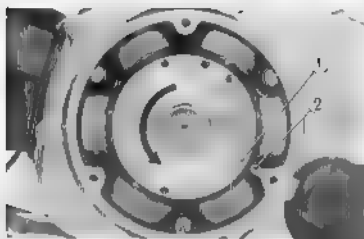

Fig. 5.2 Aligning to the timing mark
- a. Remove the left crankcase cover and align the timing mark "T" ① on the flywheel with the alignment mark ② on the stator (Fig. 5.2)